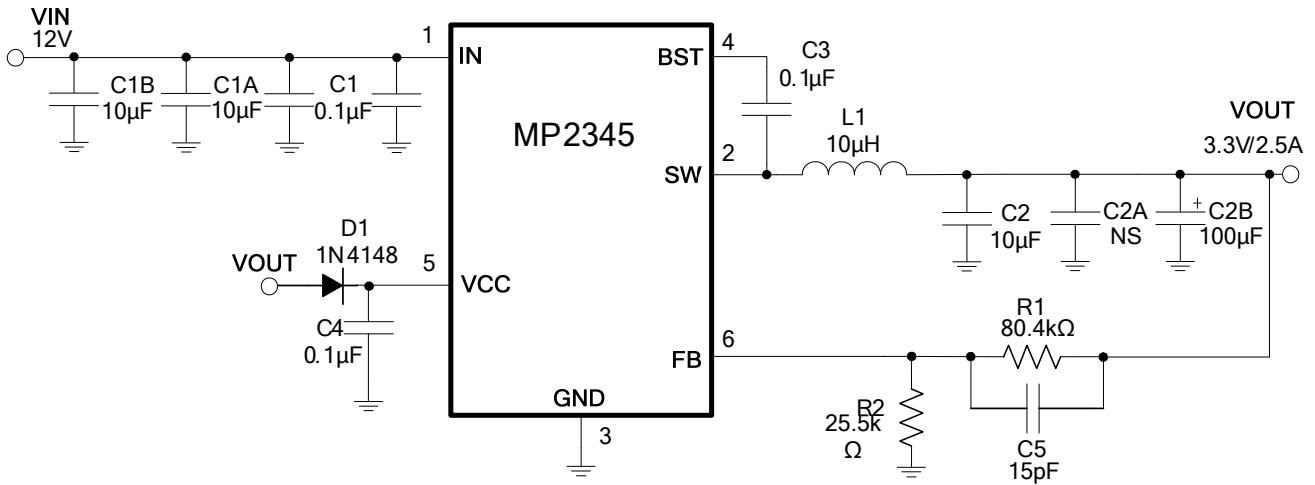

Figure 7: 3.3V/2.5A Output
- 9) The recommended layout is based on Figure 7: Typical Application Circuit.
Figure 7 and Figure 8 show the detailed application schematics. The typical performance and circuit waveforms are shown in the Typical Performance Characteristics section on page 5. For more device applications, please see the related evaluation board datasheets.